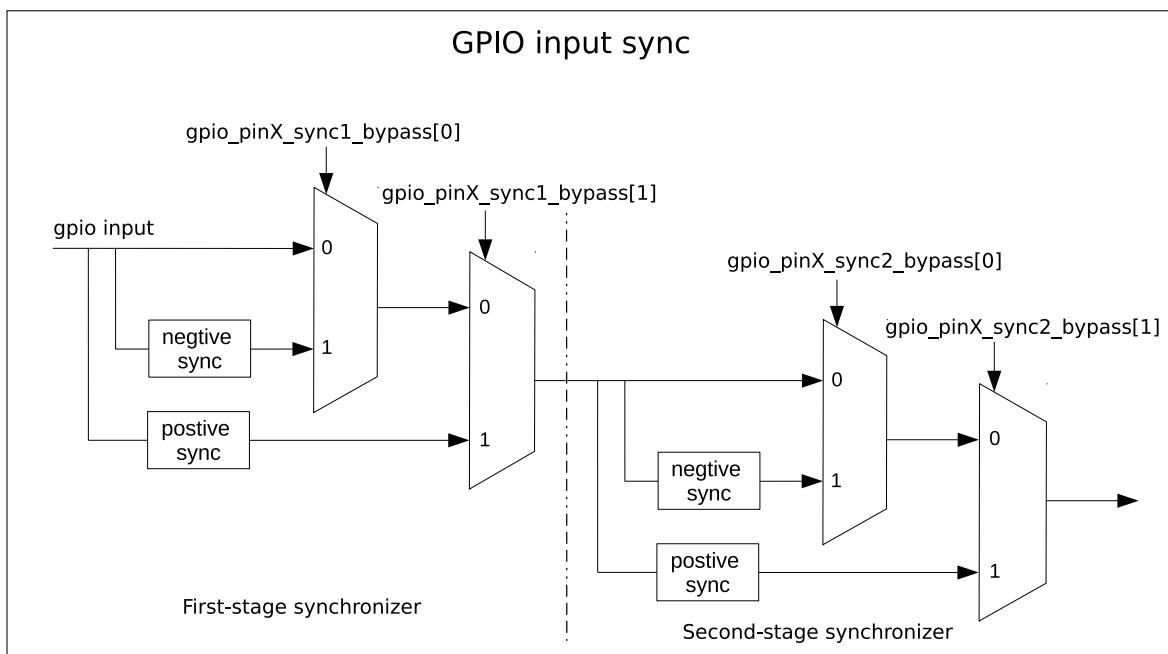

Figure 6-3. GPIO Input Synchronized on APB Clock Rising Edge or on Falling Edge
Figure 6-3 shows the functionality of GPIO SYNC. In the figure, negative sync and positive sync mean GPIO input is synchronized on APB clock falling edge and on APB clock rising edge, respectively.
- Set `GPIO_PIN x _SYNC1_BYPASS` to enable input signal synchronized on rising edge or on falling edge in the first clock, see Figure 6-3.
- Set `GPIO_PINx_SYNC2_BYPASS` to enable input signal synchronized on rising edge or on falling edge in the second clock, see Figure 6-3.